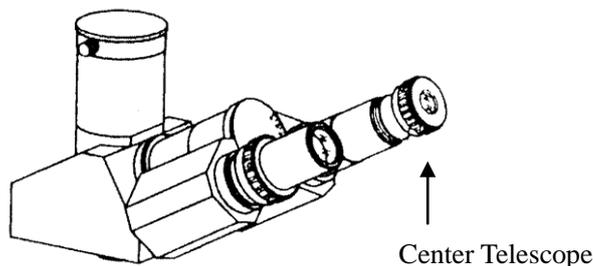

Fig. 6
8. Adjustment of the field diaphragm is accomplished while using the 10x objective and after the specimen is seen clearly. Turn the field diaphragm adjustment handle (26) to diminish field diaphragm, then turn the condenser up/down knob (18) to gain the image of field diaphragm, then adjust condenser adjustment screw (13) to center field diaphragm and eyepiece diaphragm, turn field diaphragm adjustment handle to make field diaphragm less than eyepiece diaphragm.
9. Adjustment of condenser aperture diaphragm is accomplished by turning the aperture diaphragm swivel (14) to suit the numerical aperture of the condenser with the numerical aperture of the objective, in this way, one can gain satisfactory contrast and illumination.
- Insert the annular diaphragm slab (5) in the condenser, and turn the aperture diaphragm swivel (14) to make aperture diaphragm maximum.
- Take out one eyepiece, and insert the center telescope in the eyepiece tube and adjust it to make the image of the annular phase plane and annular diaphragm clear. (See Fig. 6)